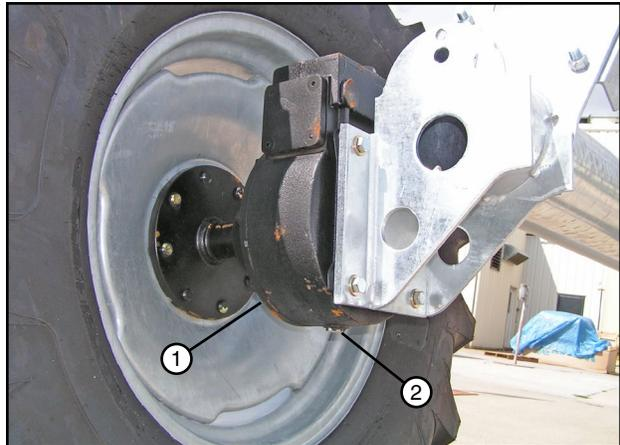

Figure 54-1 1. Wheel Gearbox
1. Remove the drain plug from the bottom of the wheel gearbox and drain the oil into a container. See figure 54-1.